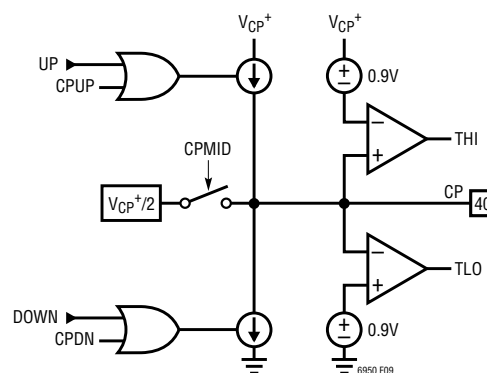

Figure 9. Simplified Charge Pump Schematic
The charge pump, controlled by the PFD, forces sink (DOWN) or source (UP) current pulses onto the CP pin, which should be connected to an appropriate loop filter. See Figure 9 for a simplified schematic of the charge pump.
The CPCHI and CPCLO bits found in register h06 enable the high and low voltage clamps, respectively. When CPCHI is enabled and the CP pin voltage exceeds approximately $V_{CP}^+ - 0.9V$, the THI status flag is set, and the charge pump sourcing current is disabled. Alternatively, when CPCLO is enabled and the CP pin voltage is less than 0.9V, the TLO status flag is set, and the charge pump sinking current is disabled (see Figure 9).